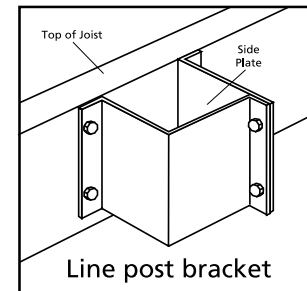
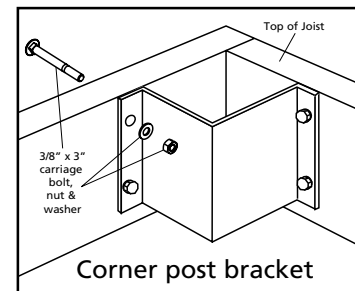

Figure 2
Figure 3
2. Position Joist Mount Bracket flush with top of framing at each post location (Fig. 2).
4. For corner posts, remove the side plate from the bracket (Fig. 2). Mark hole positions on framing (Fig. 3).